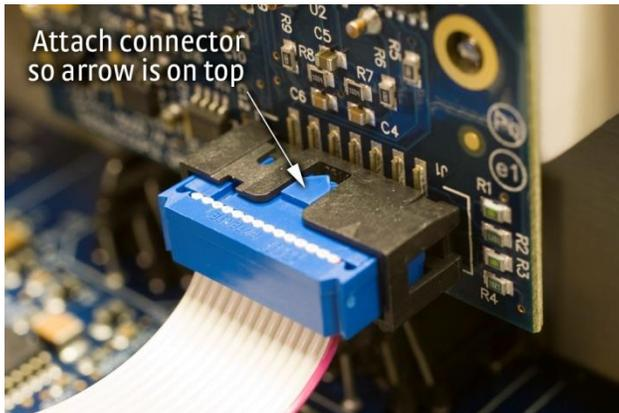

Figure 3. Proper orientation of the ribbon cable connector plug
8. From inside the instrument, place the option card into its position in the rear panel. Orient the card so that the 14-pin ribbon cable connector is toward the bottom of the instrument, closest to the main circuit board (Figure 3).
12. (You do not need to do this step if you are installing the Model 3062.) Insert the 14-pin ribbon cable connector plug into the socket on the option board. Orient the ribbon cable connector plug so that the arrow nub slides into the plug slot, and the ribbon cable exits downward (Figure 3).